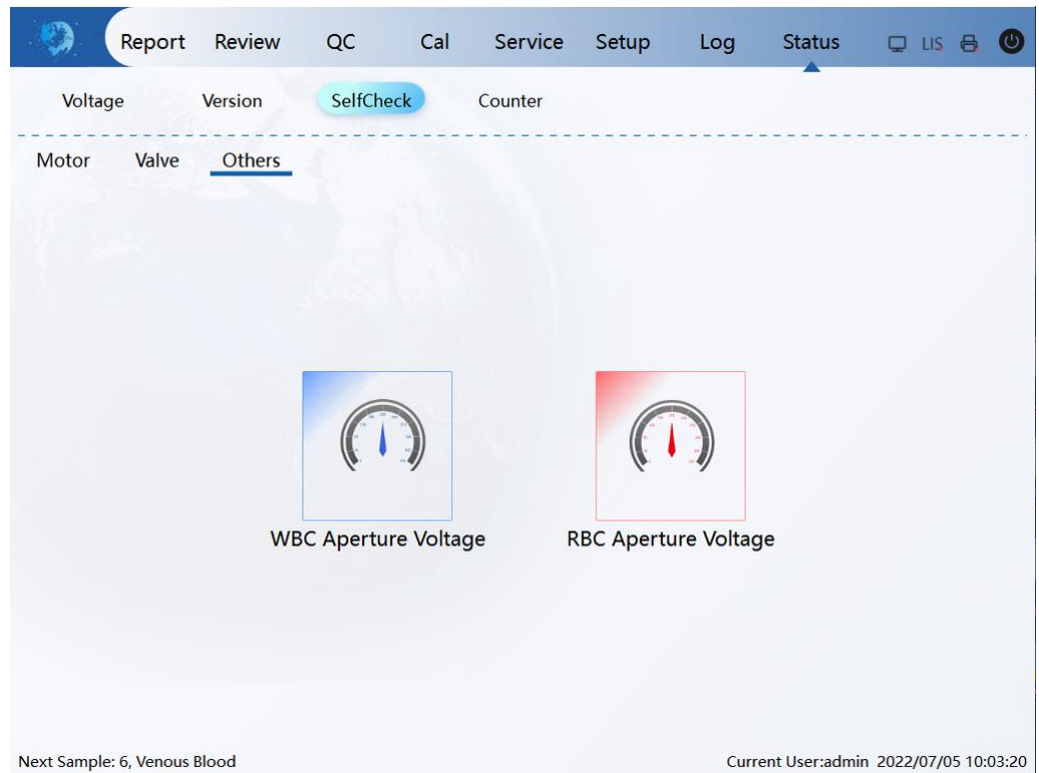

Figure 11-6 Others
1. Click "Self-Check > Others" to enter the interface shown in Figure 11-6.